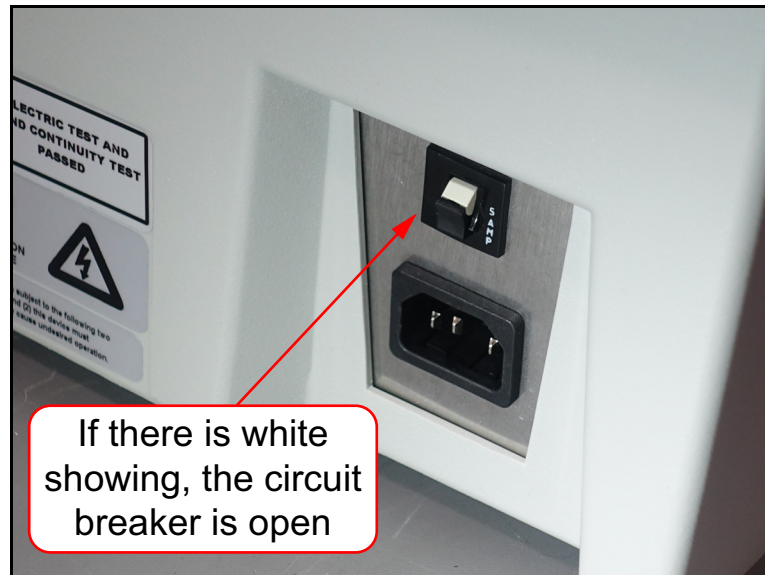

Figure 4-9: Open circuit breaker
1. If the OM410 has no display and is plugged in and turned on, check the circuit breaker on the back of the OM410. The breaker shown has been tripped and is open (Figure 4-9).